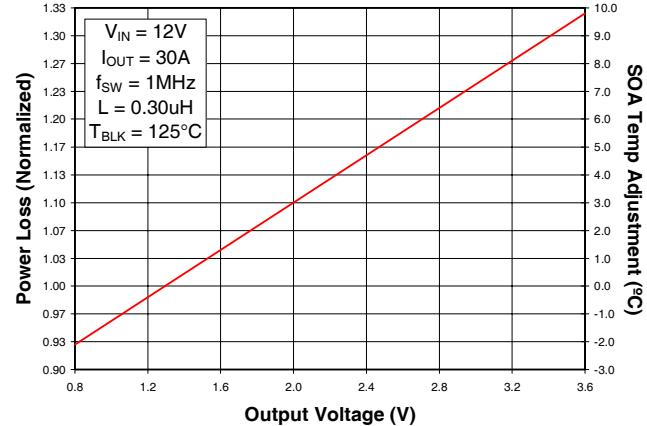

Fig. 4: Normalized Power Loss vs. V_{OUT}
- (Fig. 4) Normalized power loss for output voltage ≈ 1.28
- (Fig. 4) Normalized SOA Temperature for output voltage $\approx 8.4^\circ\text{C}$